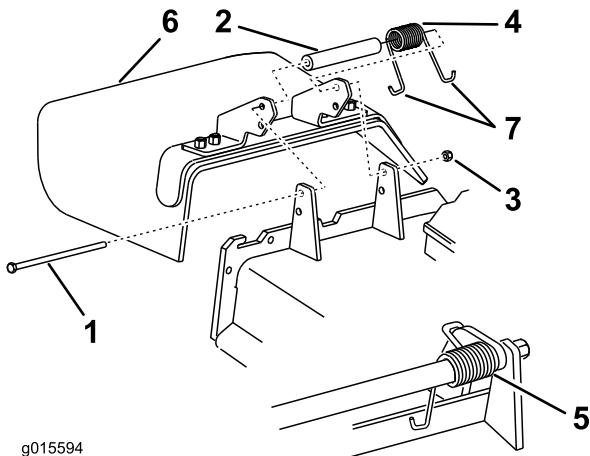

Figure 101
1. Remove the locknut, bolt, spring and spacer holding the deflector to the pivot brackets (Figure 101). Remove the damaged or worn grass deflector.
Note: Make sure one **J** end of the spring is installed behind the deck edge before installing the bolt as shown in Figure 101.
3. Install the bolt and nut. Place one **J** hook end of the spring around the grass deflector (Figure 101).